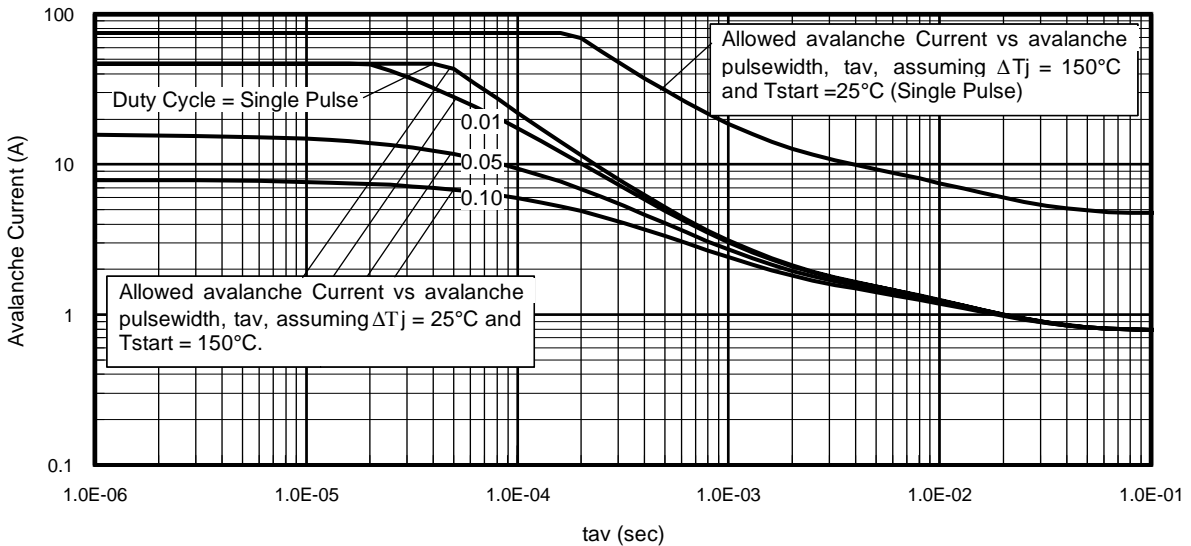

Fig 14. Typical Avalanche Current vs. Pulsewidth
Notes on Repetitive Avalanche Curves , Figures 14, 15:
7. ΔT = Allowable rise in junction temperature, not to exceed T_{jmax} (assumed as $25^{\circ}C$ in Figure 14, 15).